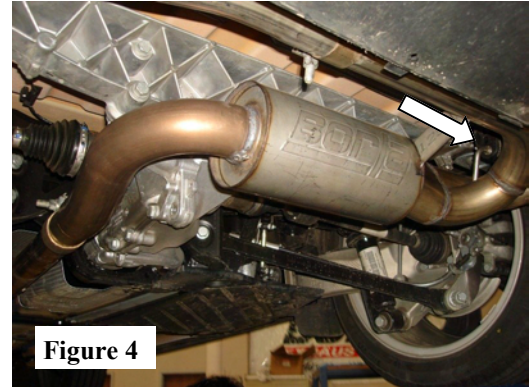

Figure 4
1. Place provided clamp over Muffler Assembly inlet pipe and slip over newly cut pipe and install Tail Pipe Assembly into rubber isolators. Don't tighten clamp. (See Fig.4)